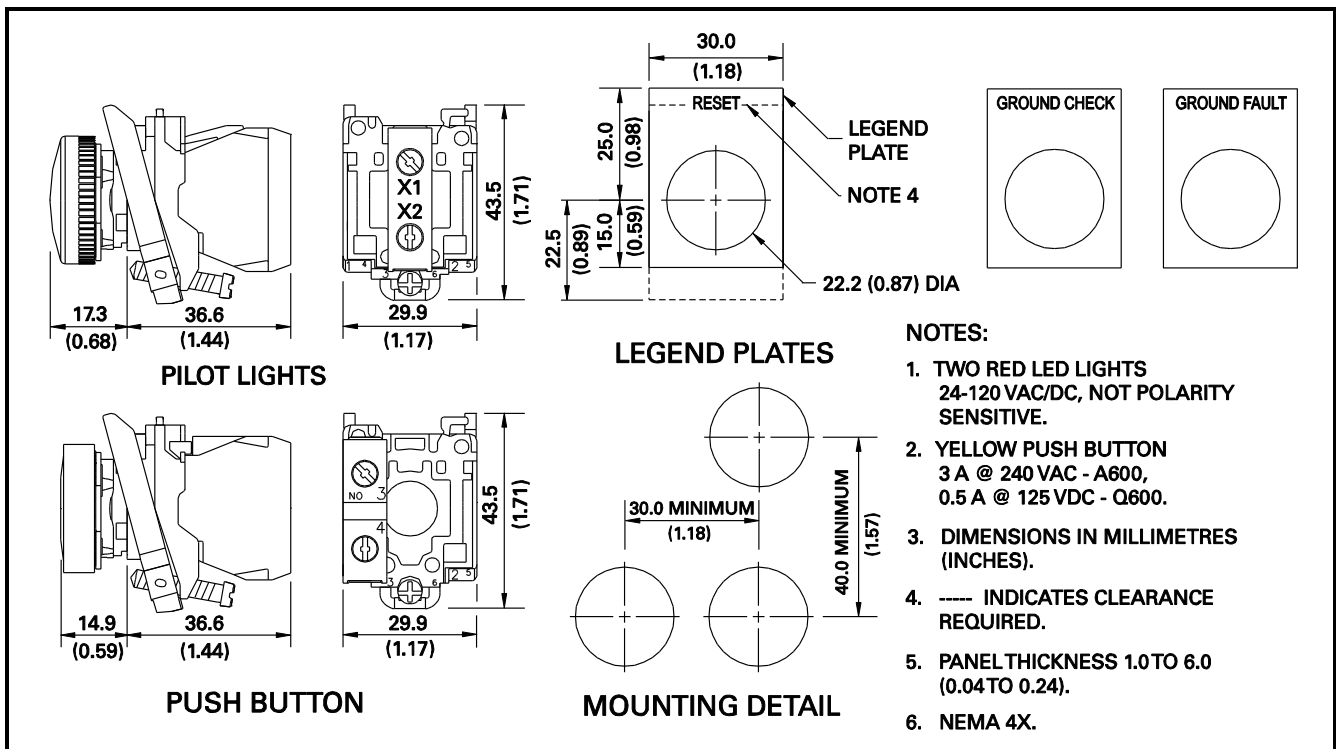

FIGURE 9. RK-132 Remote Indication and Reset Kit.
The optional RK-132 Remote Kit is shown in Fig. 9. Connect terminals of the green ground-check indicator to
3. EXTERNAL LIGHTS AND SWITCHES NOT INCLUDED WITH SE-135. OPTIONAL RK-132 REMOTE INDICATION AND RESET KIT AVAILABLE. SEE FIG. 9 AND ORDERING INFORMATION FOR DETAILS.